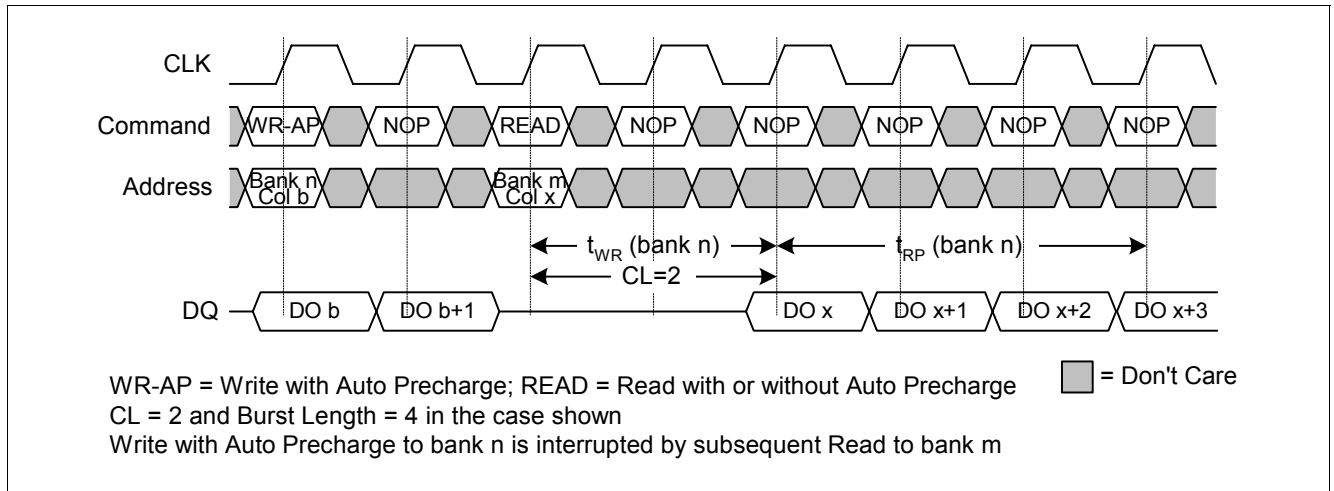

**Figure 37** READ with Auto Precharge Interrupted by READ
**Figure 37** shows a READ with Auto Precharge to bank n, interrupted by a READ (with or without Auto Precharge) to bank m. The READ to bank m will interrupt the READ to bank n, CAS latency later. The precharge to bank n will begin when the READ to bank m is registered.